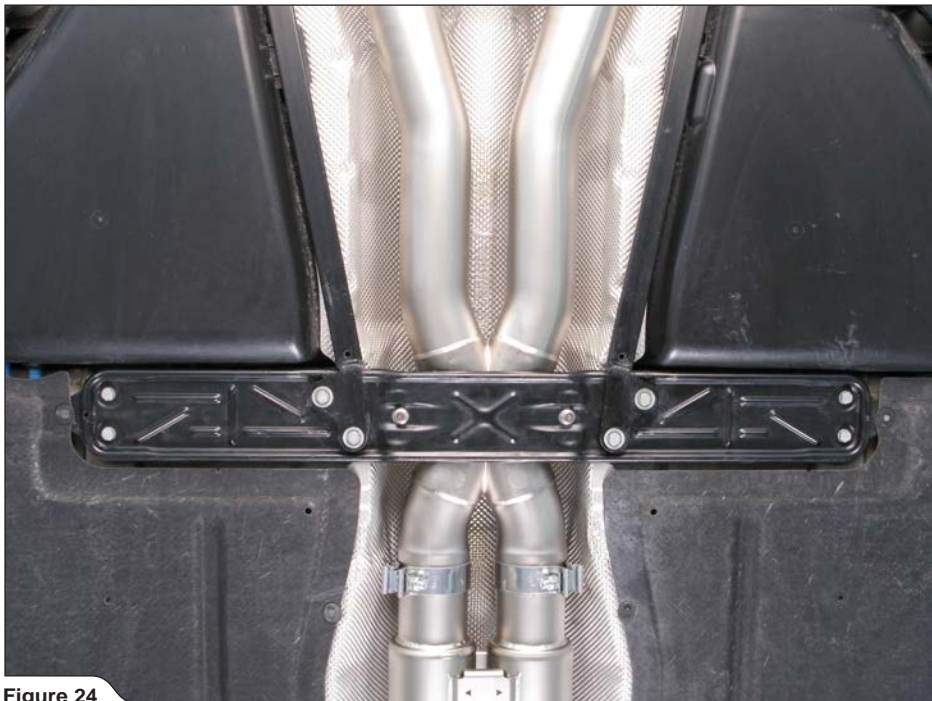

Figure 24
- Carefully attach stock collector's bracket onto the vehicle, and hand tighten all the stock bolts and nuts (**Figure 24**).